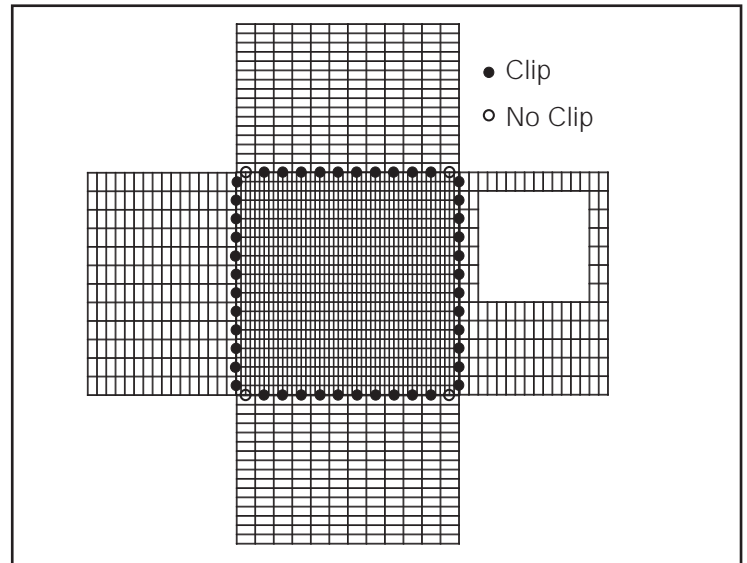

Figure 2 (Model AH2424)
1. Lay out the hutch panels as shown in Figures 2 - 4. Use the illustration that matches your model hutch. You can put the door on the right or left side of the front of the hutch.